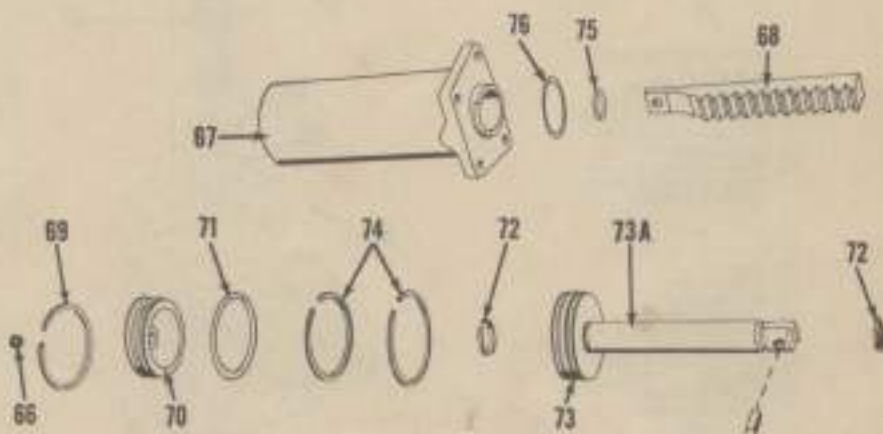

Fig. 22 — Exploded view of the power steering ram (cylinder) typical of all models except D-14 and D-15 non-diesel.
To overhaul the removed unit, refer to Fig. 22 or 22A and proceed as follows: Remove the pin attaching rack (68) to the piston rod (73A); then, extract snap ring (69) retaining the rear cap (70) in cylinder (67) and withdraw the rod and piston unit.